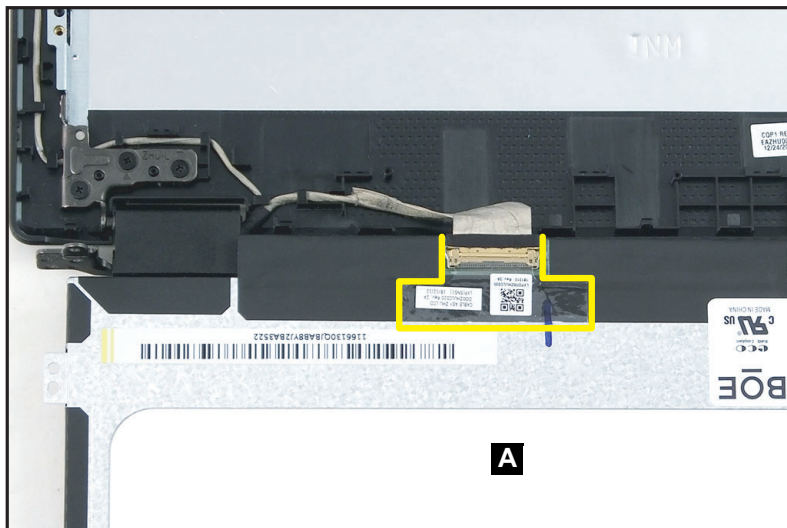

Figure 1-37. LCD Panel Removal
4. Detach the mylar tape securing the eDP cable to the LCD panel (A) (Figure 1-37).